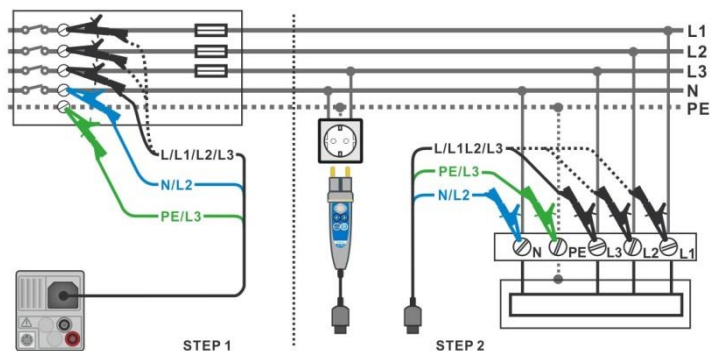

Figure 7.94: AUTO TT measurement
- ▶ Connect test leads or Plug commander to the object under test, see **Figure 7.94**.